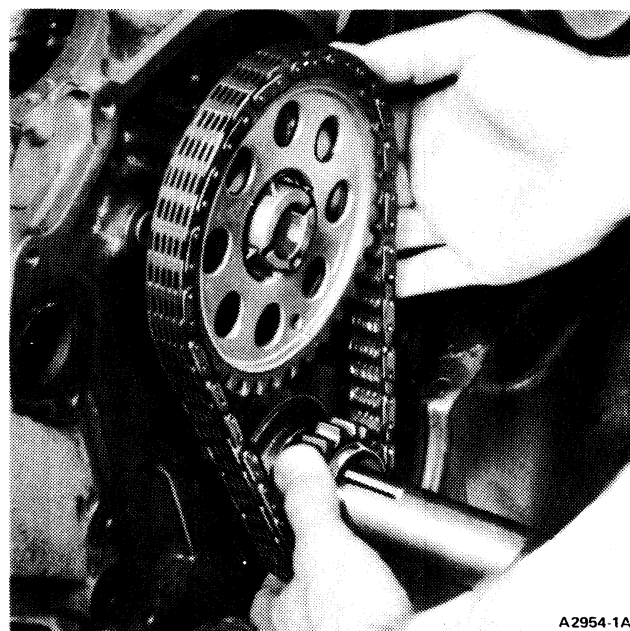

FIG. 22 Removing or Installing Timing Chain
15. Remove camshaft sprocket capscrew, washer, two piece fuel pump eccentric and front oil slinger. Slide timing chain and sprockets forward, and remove as an assembly (Fig. 22).